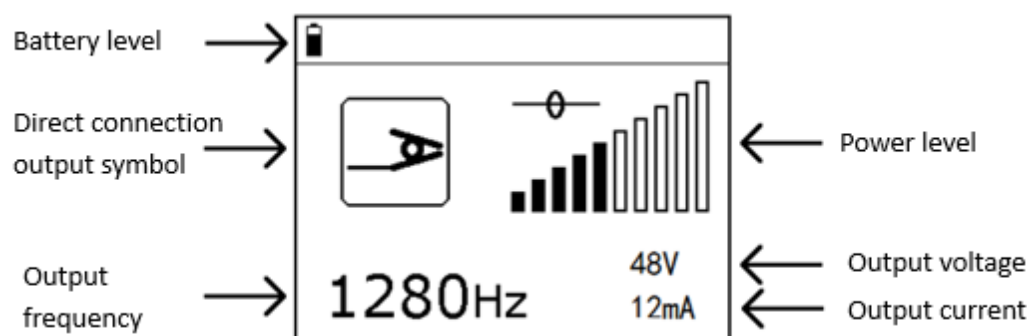

Figure 3.4 Direct connection output interface
If the voltage is normal, the signal will be output automatically after a few seconds, and the screen in Figure 3.4 will appear:
Step 5: Press the output decrease and increase keys to adjust the output signal level (magnitude), which is divided into 10 levels. The output voltage and current are displayed in the lower right corner of the screen (Figure 3.4).